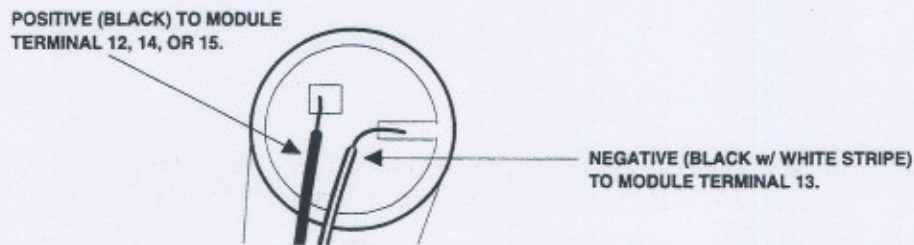

Figure 2.13 Speaker Cover Microphone Wiring Polarity and Termination
5. Connect the microphone to the shielded wire, then connect the shielded wire to the Interrogator Module terminals, observing polarity (see Figure 2.13).
1. Connect the microphone to the Interrogator Module terminals (see Figure 2.13).